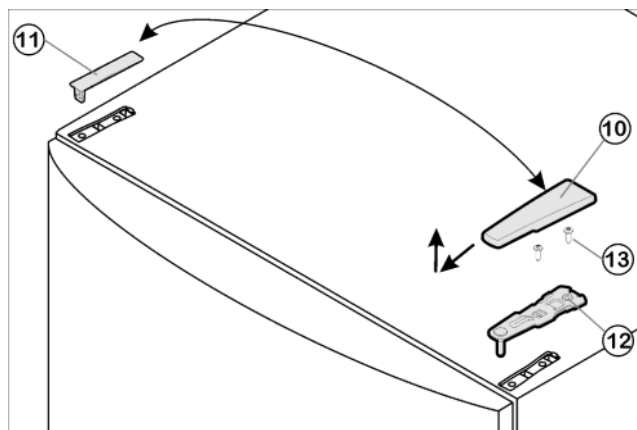

Fig. 6
- Pull off the cover Fig. 6 (10) forwards and upwards.
- Lift off the cover Fig. 6 (11).
- Unscrew the upper turn hinge Fig. 6 (12)(2x Torx® 25) Fig. 6 (13) and raise it for removal.
- ▶ Insert the upper turn hinge Fig. 6 (12) in the door on the new hinge side.
- ▶ Screw the upper turn hinge Fig. 6 (12) firmly into place (**with 4 Nm**) (2x Torx® 25) Fig. 6 (13). Possibly make preliminary holes with a bradawl or use a cordless screwdriver.
- ▶ Snap the cover Fig. 6 (10) and cover Fig. 6 (11) into place at the opposite side.